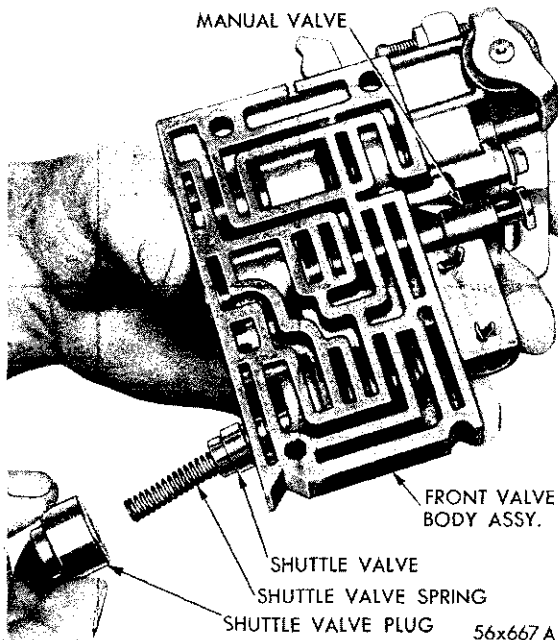

Fig. 141—Removal and Installation of Shuttle Valve, Plug, Spring and Valve
Keeping thumb pressure against shuttle valve cover (B) (spring loaded) remove the four bolts and lockwashers. Use caution when removing cover to prevent loss of front check valve ball seat (C) and ball (D). While holding thumb over throttle valve, invert valve body and remove shuttle valve plug, spring and valve, as shown in Figure 141.